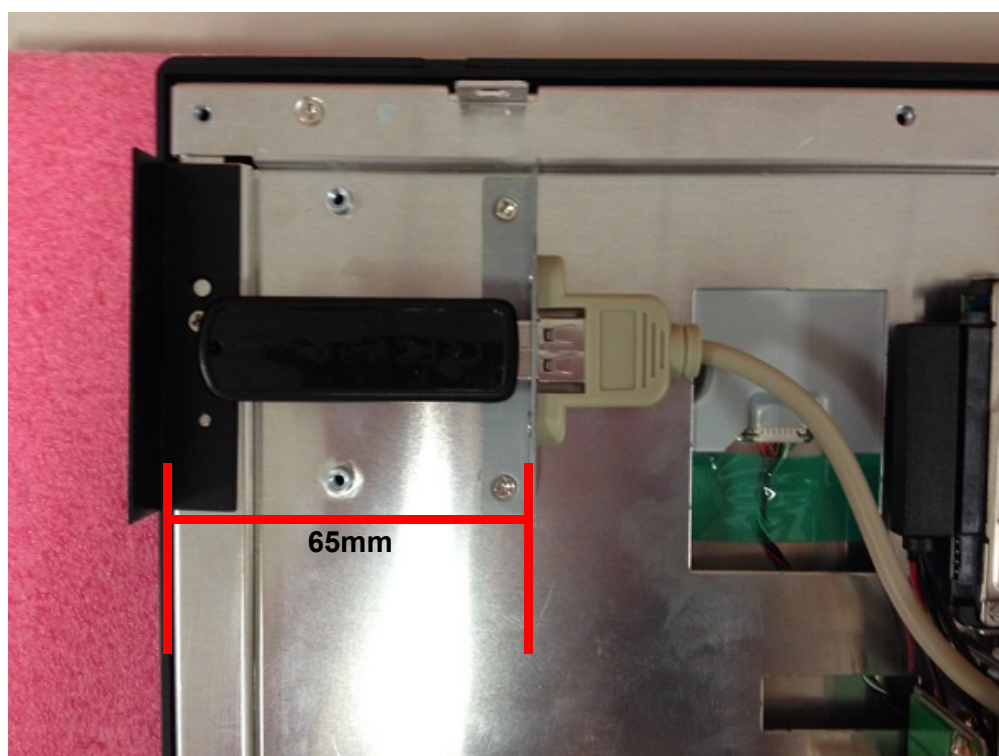

Figure 2.52
**Note!** Installed USB devices must not exceed a length of 65 mm (see Fig 2.52).